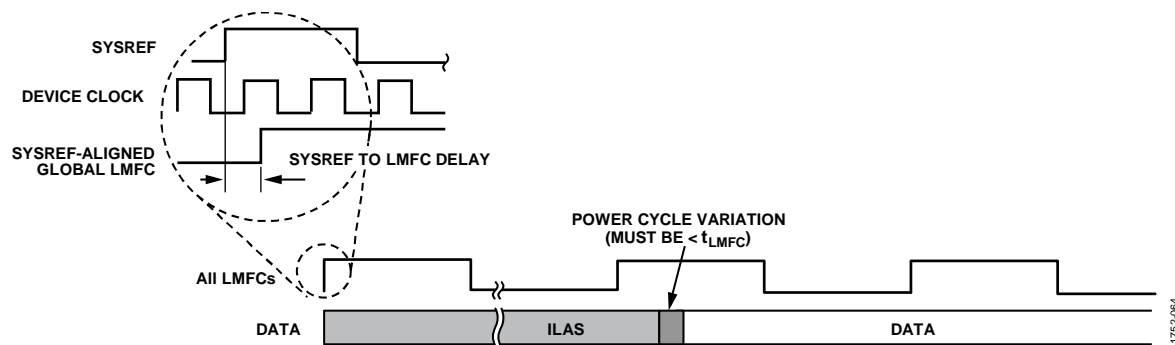

Figure 171. SYSREF± and LMFC
The JESD204B protocol organizes data samples into octets, frames, and multiframe as described in the Transport Layer section. The local multiframe clock (LMFC) is synchronous with the beginnings of these multiframe. In Subclass 1 operation, the SYSREF± signal synchronizes the LMFCs for each device in a link or across multiple links (within the AD9680, SYSREF± also synchronizes the internal sample dividers), as shown in Figure 171. The JESD204B receiver uses the multiframe boundaries and
- The total latency variation across all lanes, links, and devices must be  $\leq 1$  LMFC period (see Figure 171). This includes both variable delays and the variation in fixed delays from lane to lane, link to link, and device to device in the system.